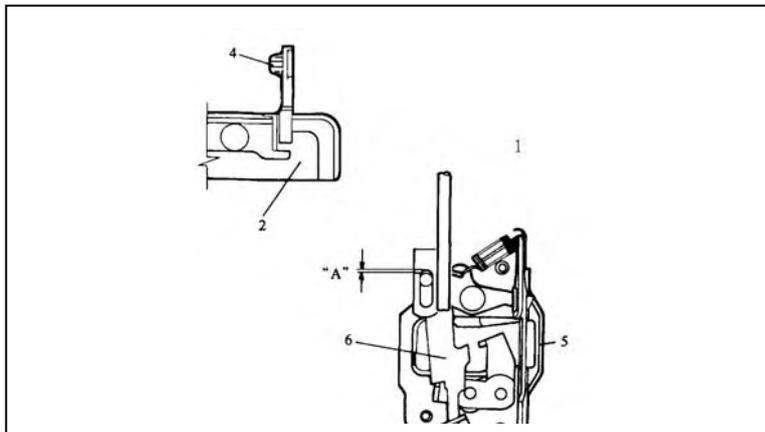

Fig. 19-19
- (1) Connect the rod “1” with outer handle“2”, keep “A” = $3.7\pm 1.5\text{mm}$ (see Fig.19-19).
- (2) Pay attention to the following items to install inner handle: